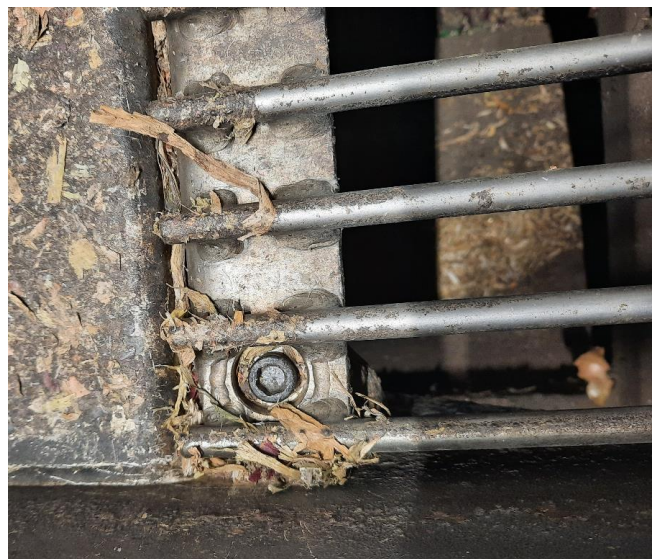

Figure 12. The screen
1. Loosen the four Allen bolts (Figure 12). These bolts may be full of clippings. Start by cleaning the bolts with an air pistol/scraper.